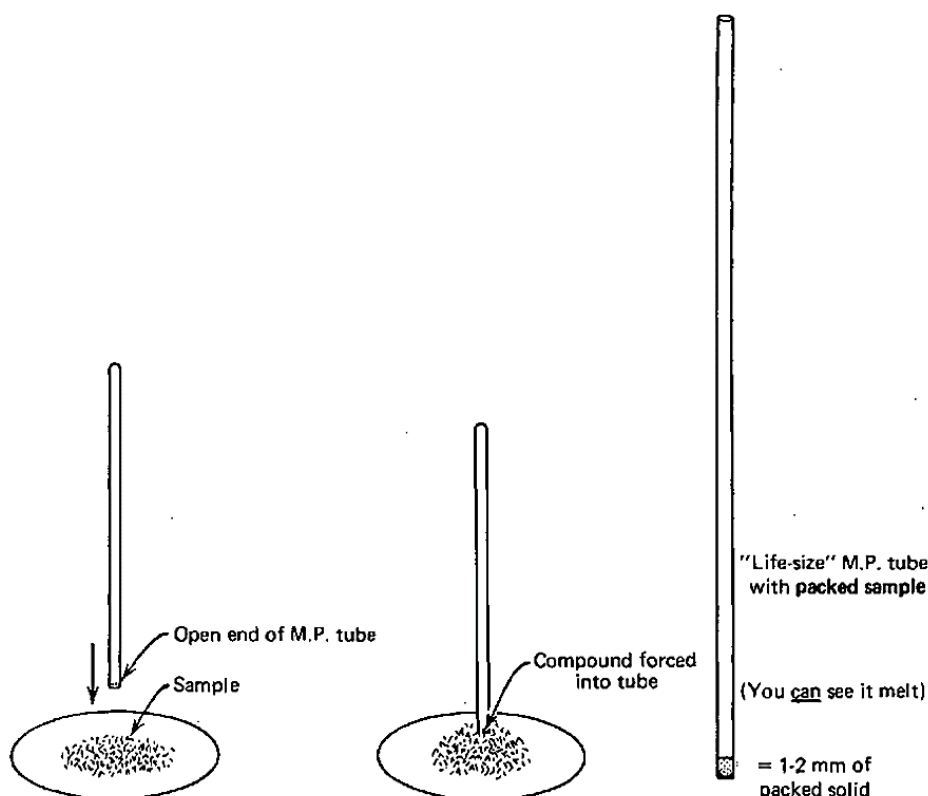

Figure1 . Loading a melting point tube.
- **Place a small amount of dry solid on a new filter paper (Fig. 1)**. Thrust the open end of the capillary tube into the middle of the pile of material. Some solid should be trapped in the tube. Turn the tube over, closed end down. Remove any solid sticking to the outside. The solid must now be packed down.